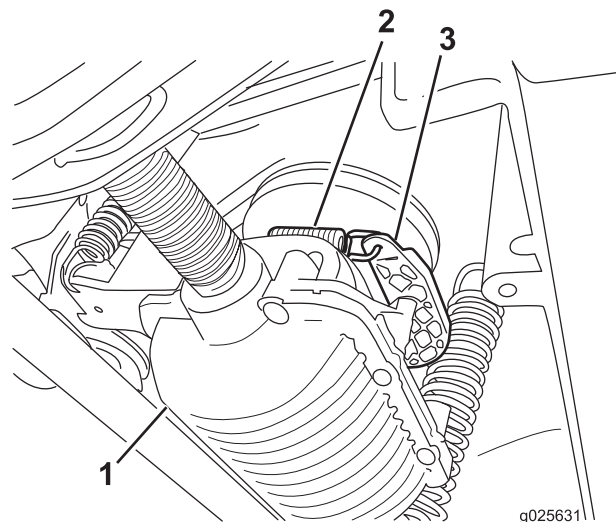

Figure 2
4. Attach the cable spring end onto the transmission activation lever as shown in Figure 2.